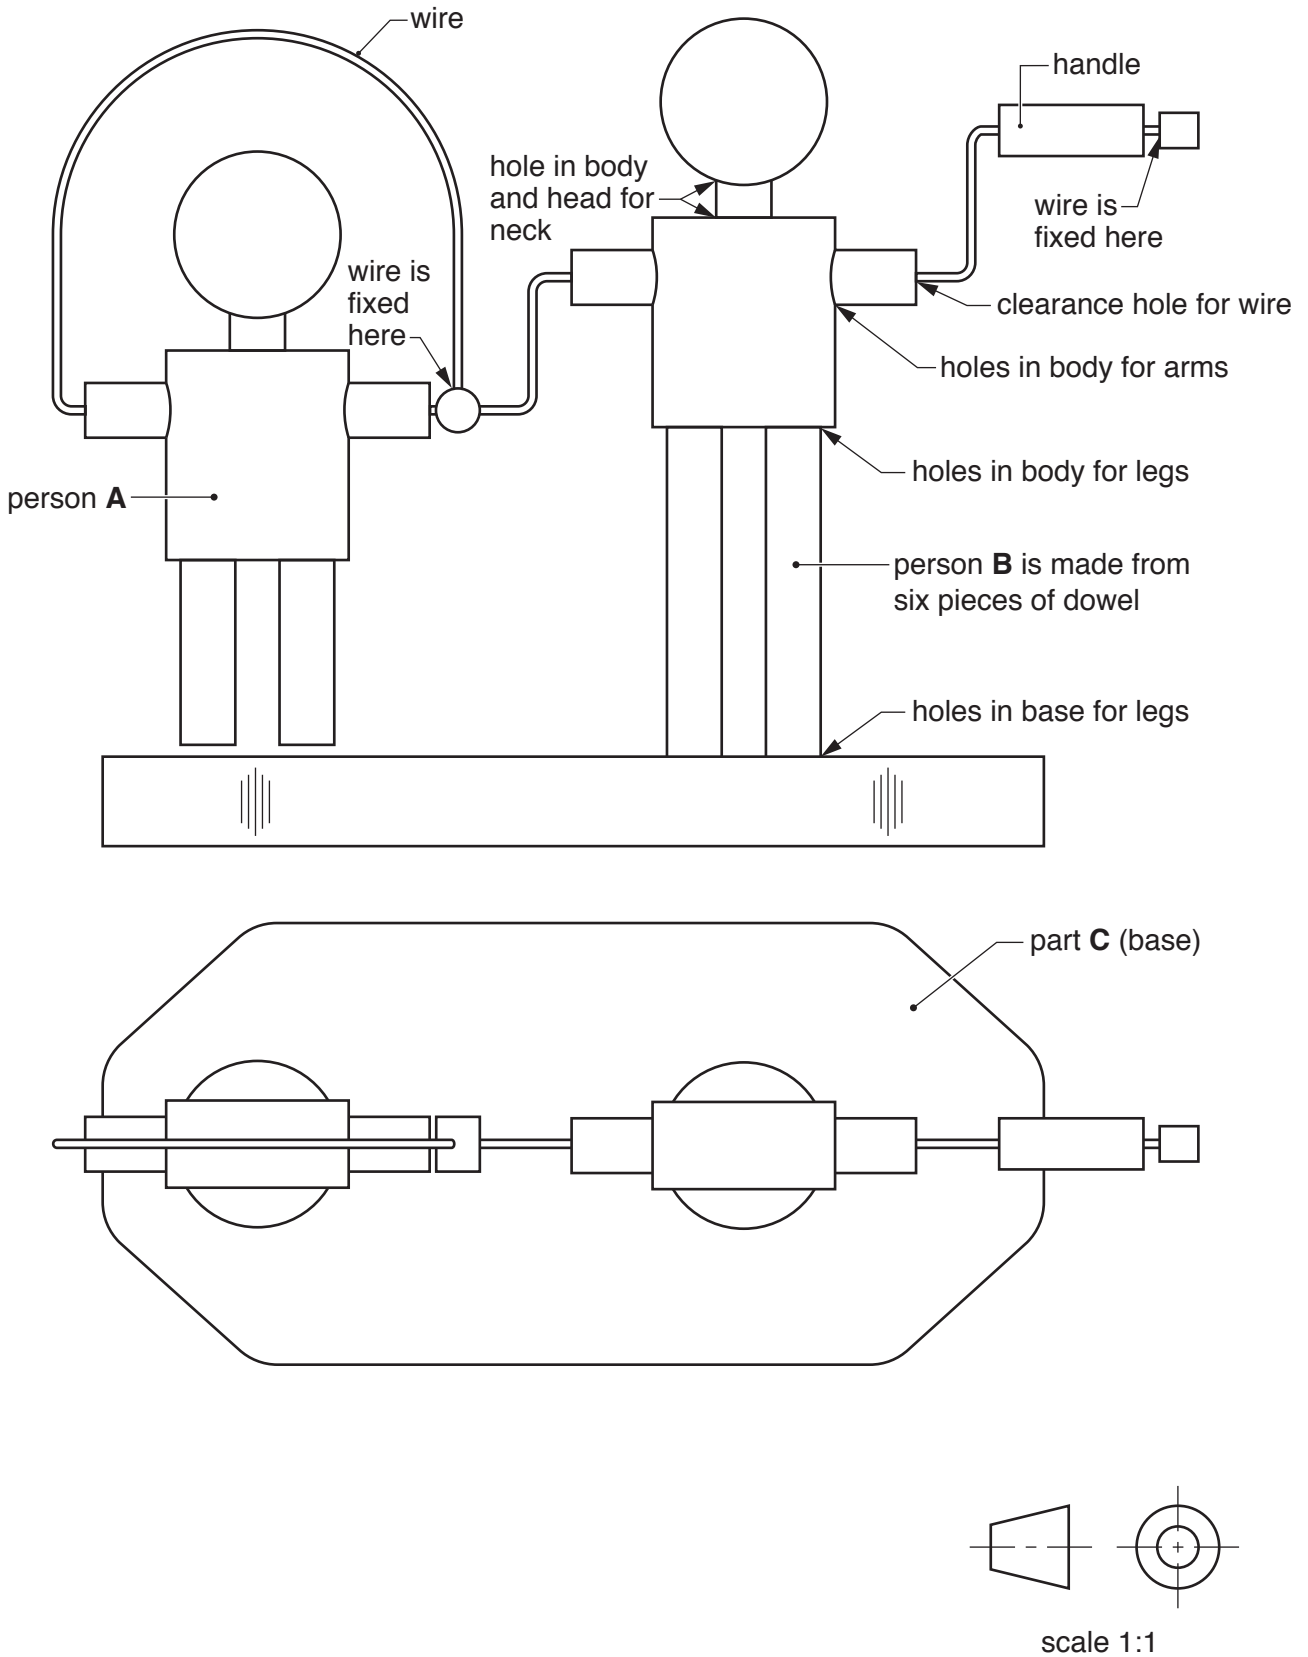

Fig. 2
- 2 Fig. 2 gives details about a mechanical toy that is to be made in a school workshop. As the handle is turned, person **A** moves up and down.